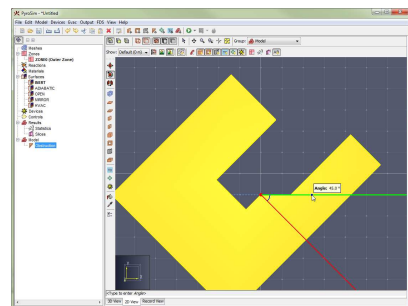

Figure 96. Define angle vector
5. Single-click a third point to define the **angle vector** from the first point to the third point ( Figure 96 ).